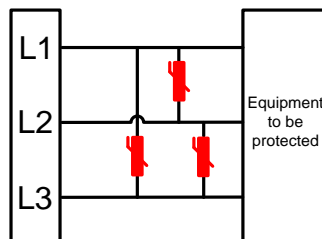

Figure 7
(3) Three-phase power AC, MOV surge protection is used between line and line. See Figure 7.